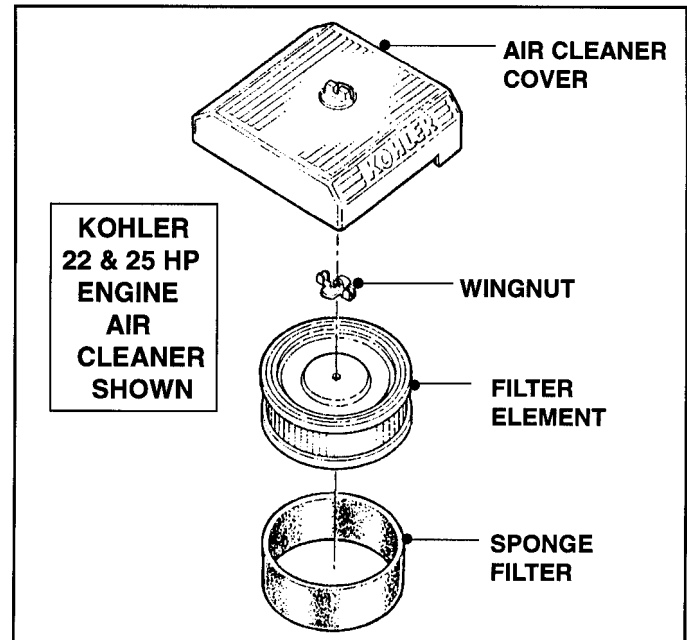

FIGURE 4.1
1. Inspect Filter during every Engine Service or every 25 operating hours (more often if mower is used under extremely dirty or dusty conditions). See Figure 4.1.